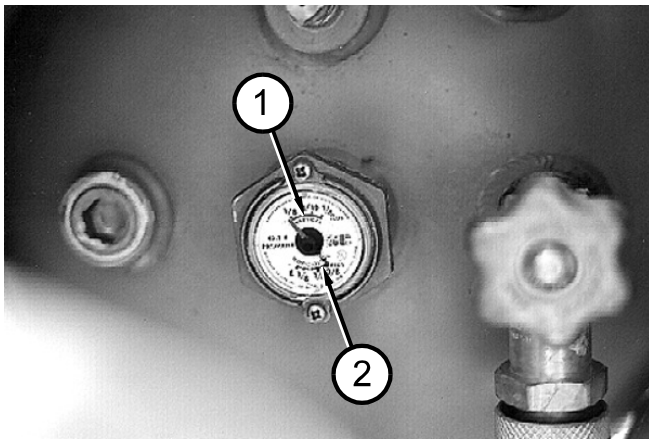

Figure 4.6 - Fuel Level Gauge
LPG tanks have two fuel gauges ① ② on top. One measures correctly when the tank is standing on end (VERTICAL) the other measures correctly when the tank is laying down (HORIZONTAL). Both read in fractions-of-a-full-tank. SR tanks are mounted vertically. Therefore, you should read the VERTICAL ① scale (see Figure 4.6).